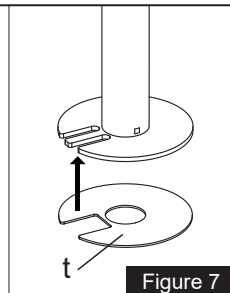

Figure 7
3. Attach Soft Pad(t) to the Grommet Base Plate(m), see Figure 7.